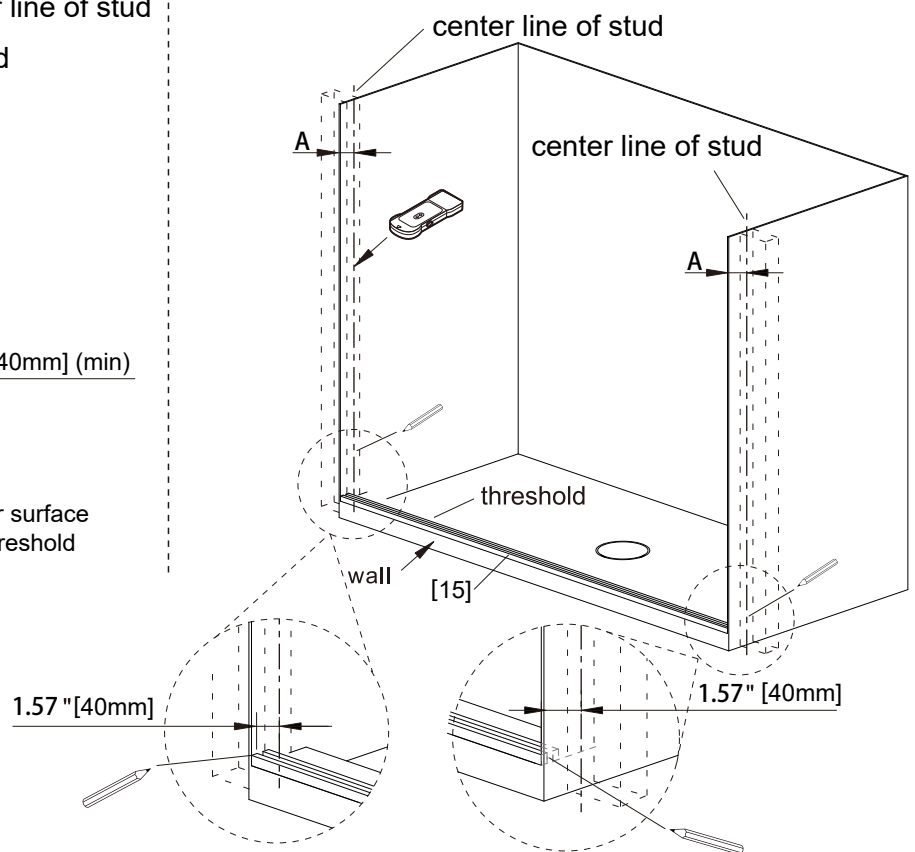

Fig 2.2
2. Mark the position for **outer surface of Bottom Rail** with measurement **1.57" [40mm]** from the **center line of stud** on both side. (Fig 2.2)